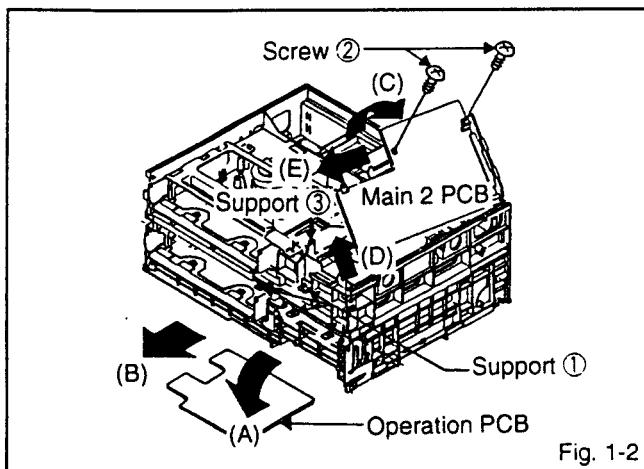

Fig. 1-2
2. OPERATION PCB (Refer to Fig. 1-2)
3. DECK 1/2 AND MAIN 2 PCB (Refer to Fig. 1-2 and 1-3)
1. Remove the 2 screws ②. (Refer to Fig. 1-2)
2. Open the MAIN 2 PCB in the direction of arrow (C). (Refer to Fig. 1-2)
4. Remove the 6 screws ①.
7. Remove the TRANSISTOR PCB. (Refer to item 2-9 of the MECHANICAL ADJUSTMENT.)
8. Remove (a) part of the MAIN 2 PCB in the direction of arrow (D).
9. Remove the MAIN 2 PCB in the direction of arrow (E). (Refer to Fig. 1-2)